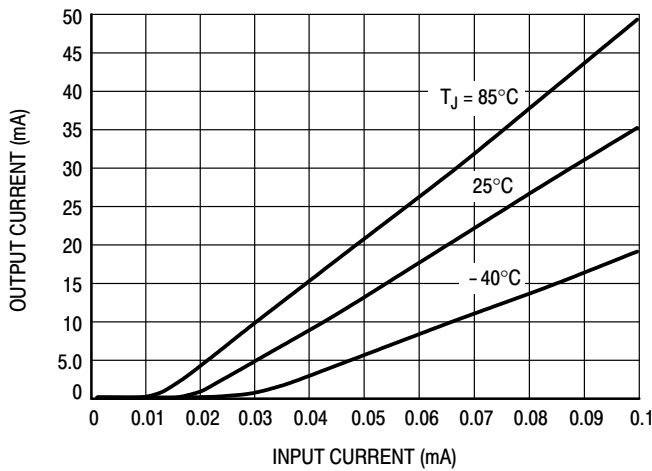

Figure 4. Threshold Effects
5. For levels of input current below 100 μA , use the input threshold curves of Figure 4 to verify that on the MDC3105 at all temperatures.